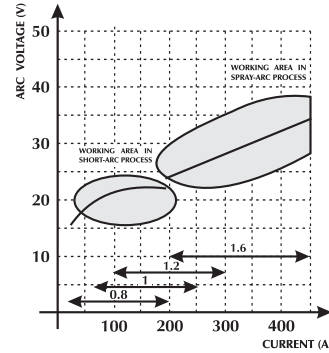

Fig.2 Diagram for selection the of best working characteristic.
- The wire feeding speed is proportional to the welding current. Fig.2 and 3 show the relationships between the various welding parameters.